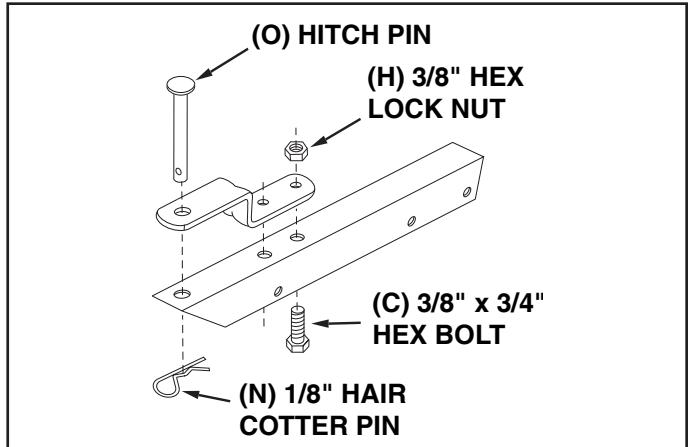

FIGURE 13
25. Assemble the hitch bracket to the hitch extension bracket using two 3/8" x 3/4" hex bolts (C) and 3/8" hex lock nuts (H). Insert the bolts from the bottom. See figure 13.
26. Assemble the hitch pin (O) through the hitch bracket and the hitch extension bracket and secure with the hair cotter pin (N). See figure 13.